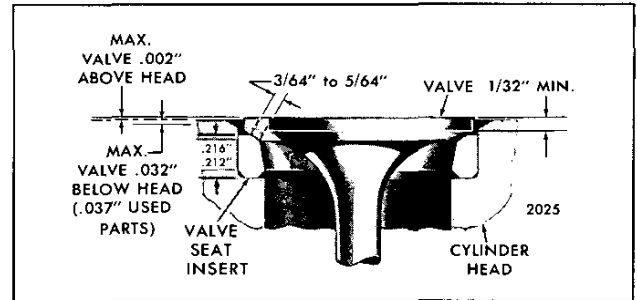

Fig. 13 - Relationship Between Exhaust Valve, Insert and Cylinder Head (Two-Valve Head)
and spring tension, the edge of the valve at the valve head must not be less than 1/32" in thickness and must still be within the specifications shown in Figs. 13 and 14 after refacing.
3. Then, grind the top surface with a 15° wheel to narrow the width of the seat from 3/64" to 5/64" (Figs. 13 and 14). The 31° face of the insert may be adjusted relative to the center of the valve face with the 15° and 60° grinding wheels. *Do not permit the grinding wheel to contact the cylinder head when grinding the insert. If necessary, replace the insert.*
The maximum amount that the exhaust valve should protrude beyond the cylinder head (when the valve is in the closed position), and still maintain the proper piston-to-valve clearance (Figs. 13 and 14). Grinding will reduce the thickness of the valve seat insert and cause the valve to recede into the cylinder head. If, after several grinding operations, the valve recedes beyond the specified limits, replace the valve seat insert.
When installing exhaust valves, check to see that the valves are within the specifications (Figs. 13 and 14). Also, do not use "N" pistons with former four-valve cylinder head assemblies unless the valves are flush with the cylinder head. If the valves are not flush, it may be necessary to regrind the valve seats so that the valves will be flush with the bottom surface of the cylinder head.
9. Check the position of the exhaust valve (Figs. 13 and 14).